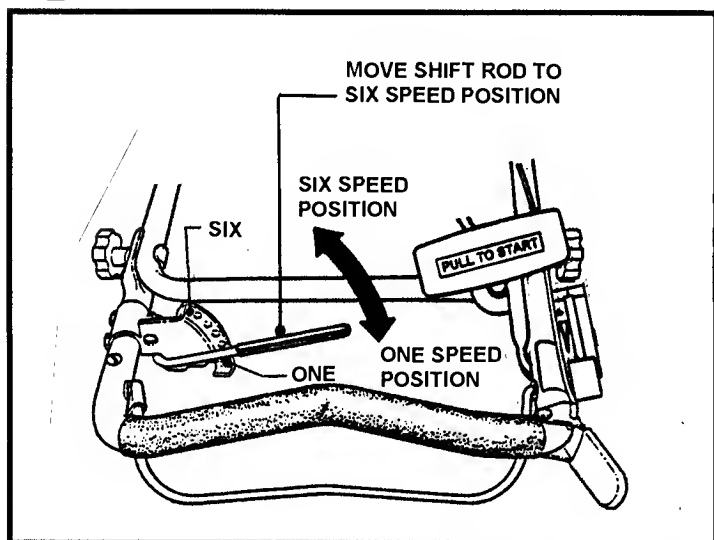

FIGURE 3.12
1. Place shift rod in the number six speed position. See Figure 3.12.